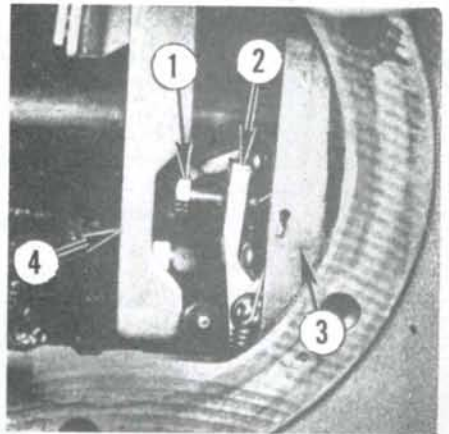
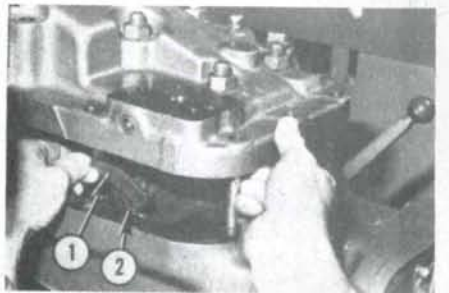
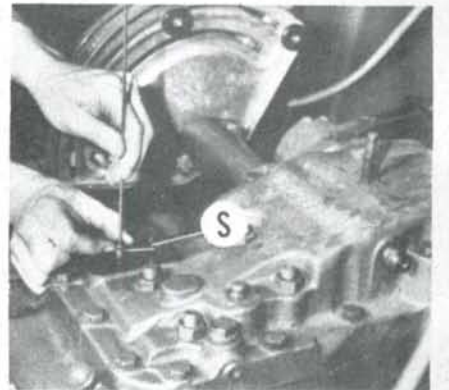

Fig. 277—The vertical lever (4) must be positioned as shown with lift cover installed.
Fig. 278—When installing lift cover, be sure that pressure control lever (1) is positioned in "butterfly" bracket (2).
Fig. 279—Standpipe (S) can be guided into position with a piece of welding rod as shown.
When installing lift cover, be sure that vertical control lever (4—Fig. 277) is to the rear of lever on hydraulic pump. Be sure that "butterfly" bracket (2—Fig. 278) is installed on top of pump servo valve (if so equipped) and carefully guide the pressure control lever (1) into "butterfly" as shown. A piece of welding rod can be used to guide standpipe into position as shown in Fig. 279. Tighten lift cover mounting cap screws to a torque of 88 N·m (65 ft.-lbs.).